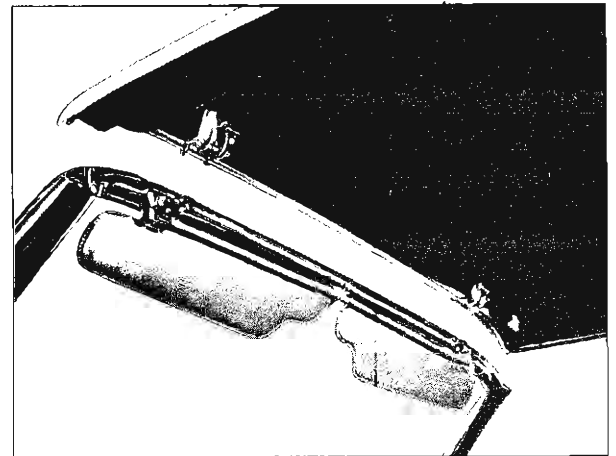

Fig. 21-4 Disengaging Top From Header
3. Raise front of top (Fig. 21-4) to disengage front roof rail from windshield header.